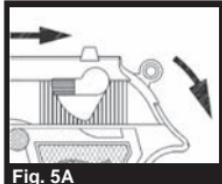

Fig. 5A
- Cock the air pistol by pulling the slide all the way back to the rearward position and releasing it, allowing it to move forward, or by cocking the hammer (Fig. 5A & 5B).